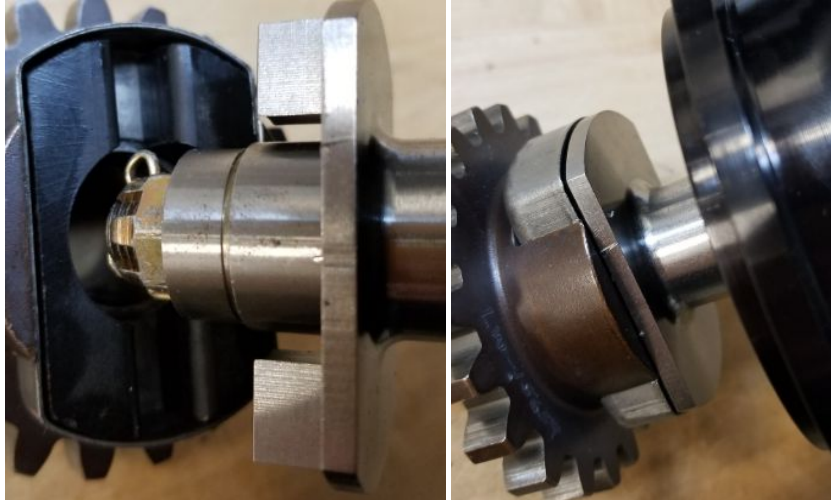

Figure 8: MTH Installation into magneto drive gear/cushions
- f. Install the MTH into the proper magneto hole and connect correctly with the magneto drive gear retainer and cushions. Electroair recommends using new magneto drive cushions. See Figure 8.